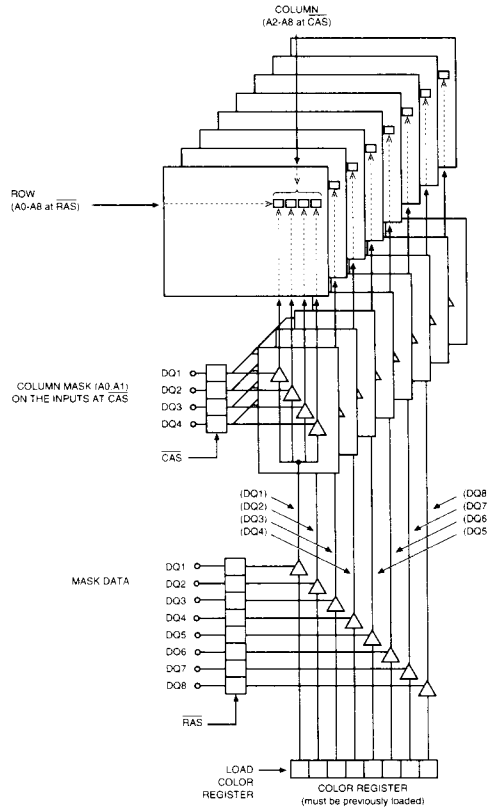

Figure 2
If DSF is HIGH when $\overline{\text{CAS}}$ goes LOW, the MT42C8255 will perform a BLOCK WRITE (BW) cycle instead of a normal WRITE cycle. In BLOCK WRITE cycles, the contents of the color register are directly written to four adjacent column locations (see Figure 2). The color register must be loaded prior to beginning BLOCK WRITE cycles (see LOAD COLOR REGISTER). Each DQ location of the color register is written to the four column locations (or any of the four that are enabled) in the corresponding DQ bit plane.